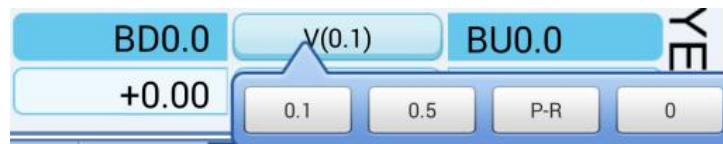

Figure 5.9 Prism menu under Rectangular coordinate mode
0.1 $\Delta$  or 0.5 $\Delta$ ) . Prism menu is showing in figure 5.9 under Rectangular coordinate mode, button functions are as below: